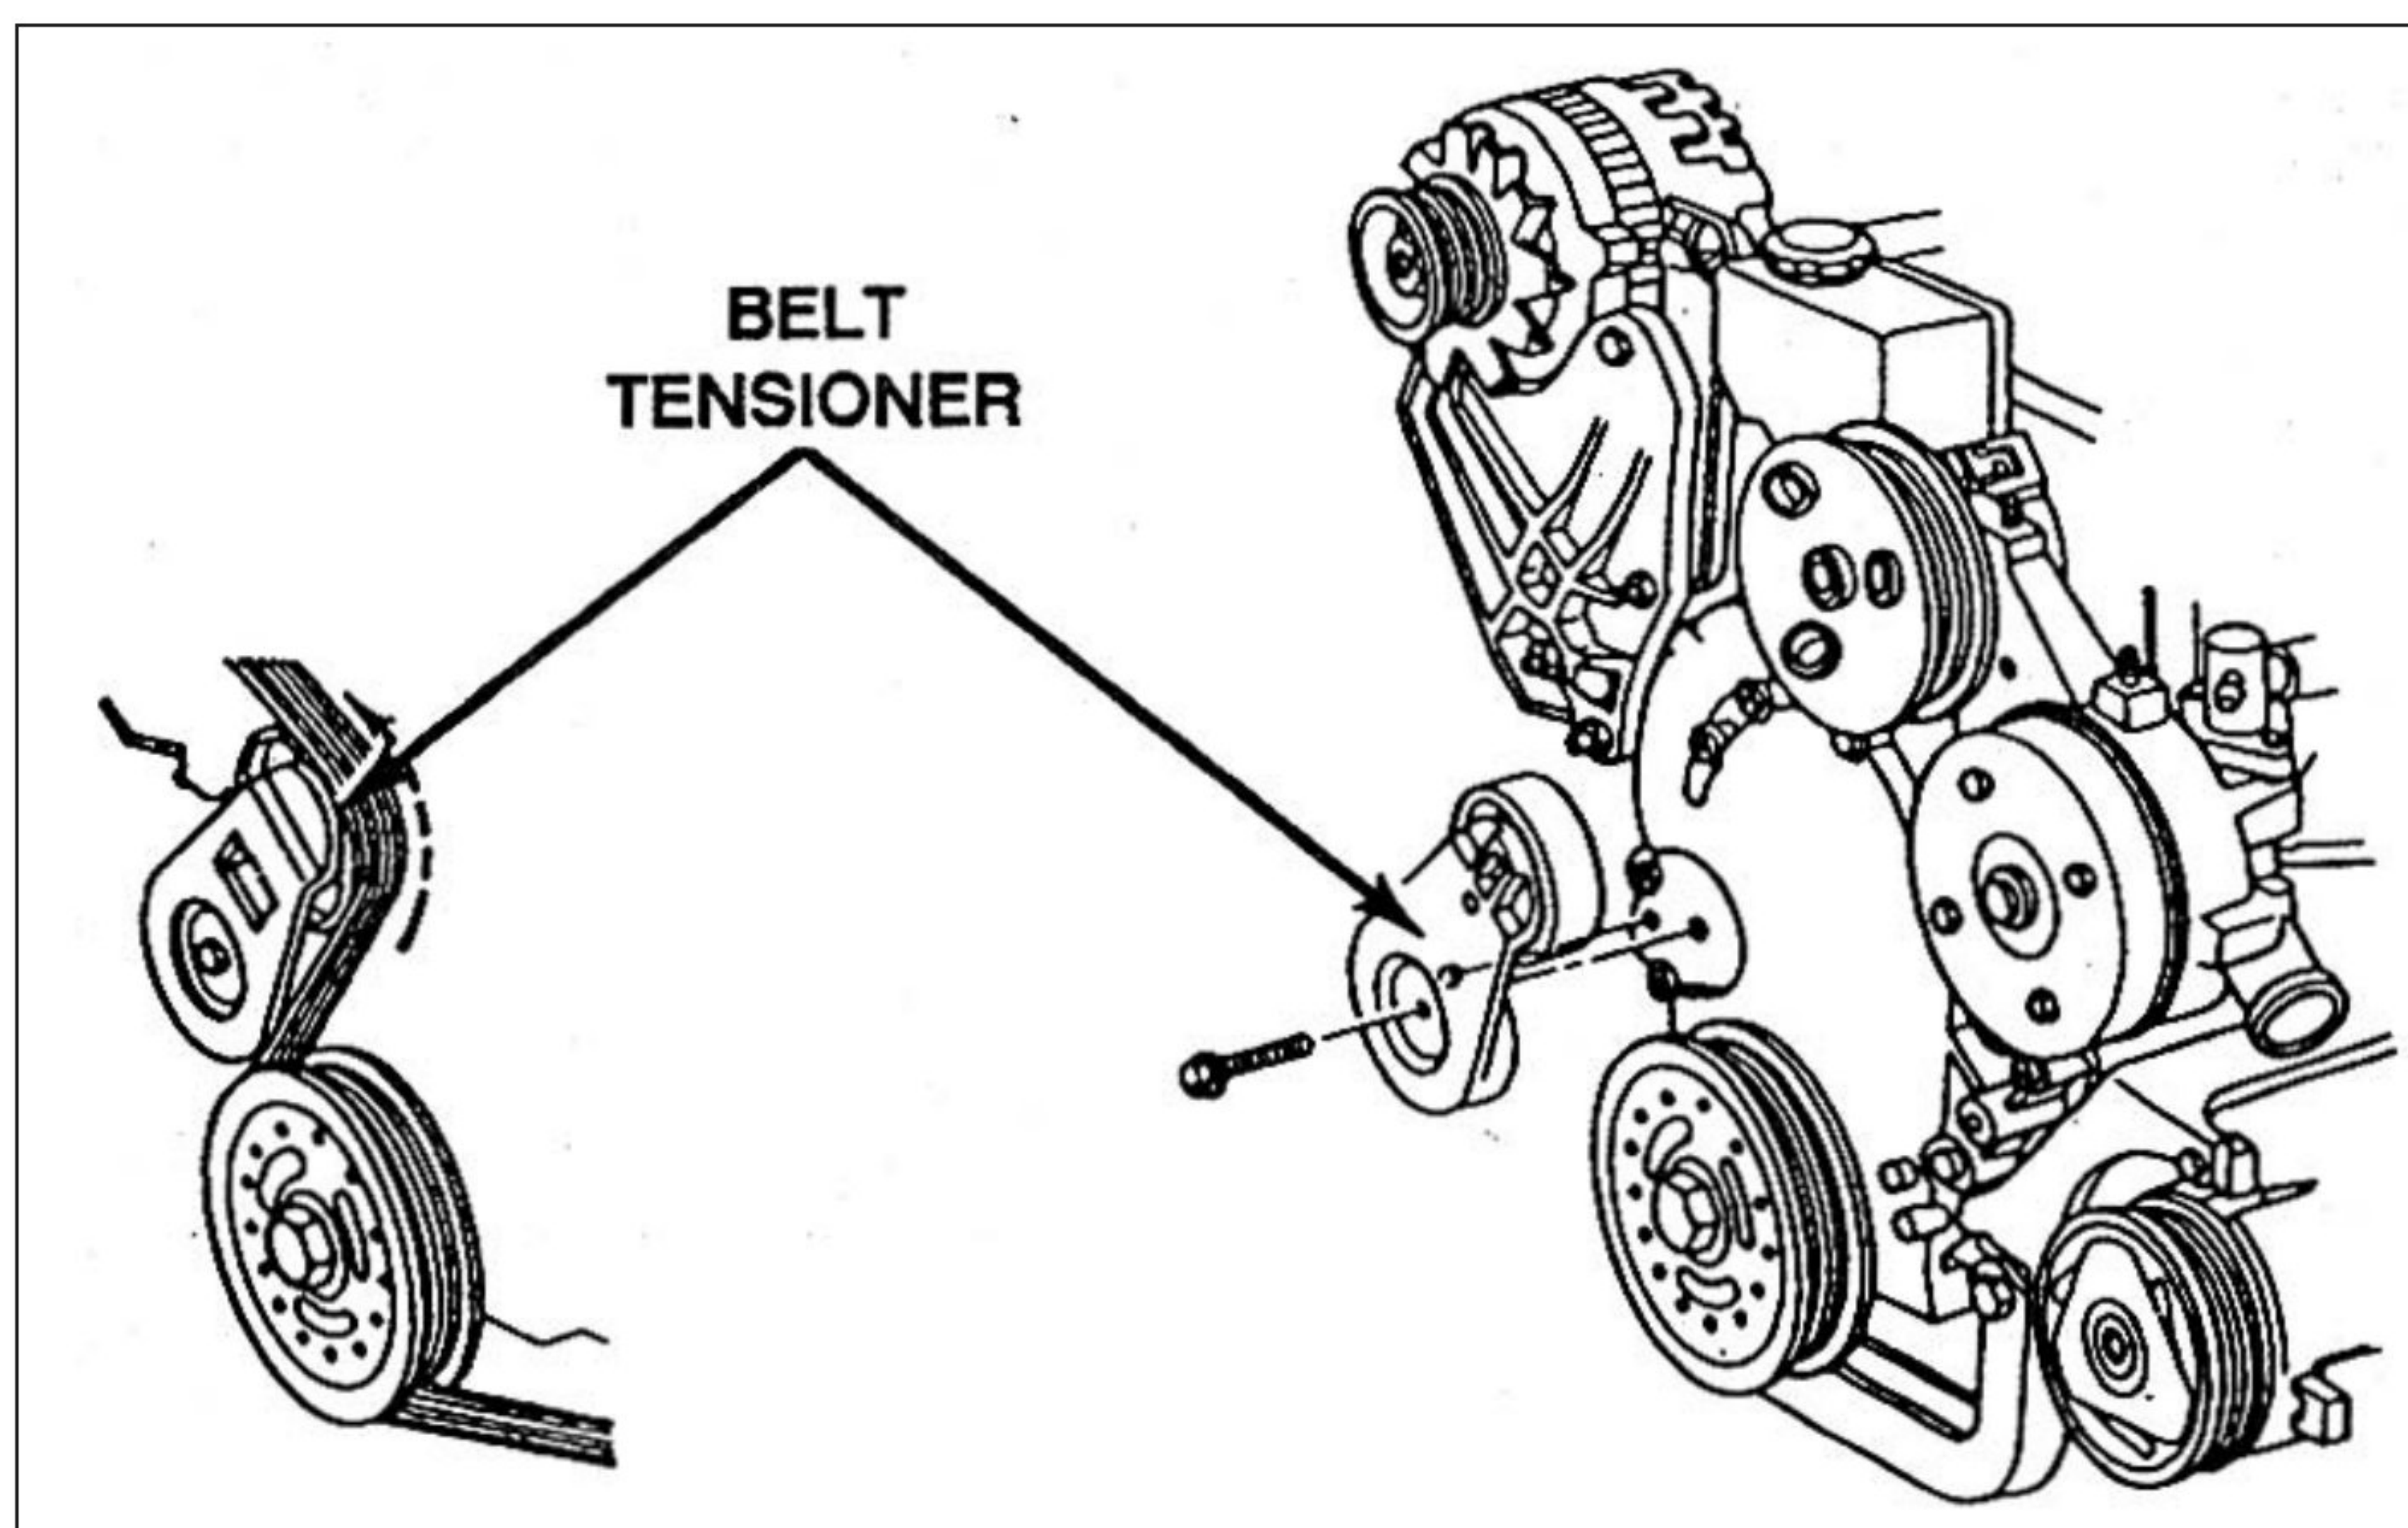

Figure 2-24—Automatic Belt Tensioner – Typical
B. Serpentine Belt—If vehicle is equipped with an automatic tensioner, rotate tensioner to relieve tension and remove belt. If vehicle is equipped with a manual tensioner, loosen tensioner mounting, then loosen adjusting bolt/nut until belt can be disconnected from alternator pulley. Allow belt to hang from other pulley(s) (Figure 2-24).